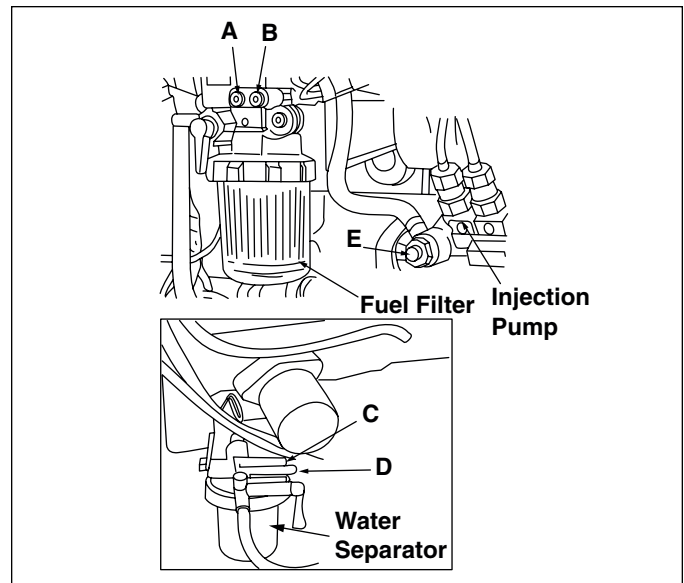

Figure 4-8. Bleeding Air from Fuel System
2. While operating the priming lever on the fuel injector pump, loosen the air bleeding screw (A, Figure 4-8) on the fuel filter. When fuel starts flowing from the bleeder screw (A) without any air, tighten the bleeder screw (A).
3. Repeat step 2 for bleeder screws B, C, D and E (Figure 4-8).